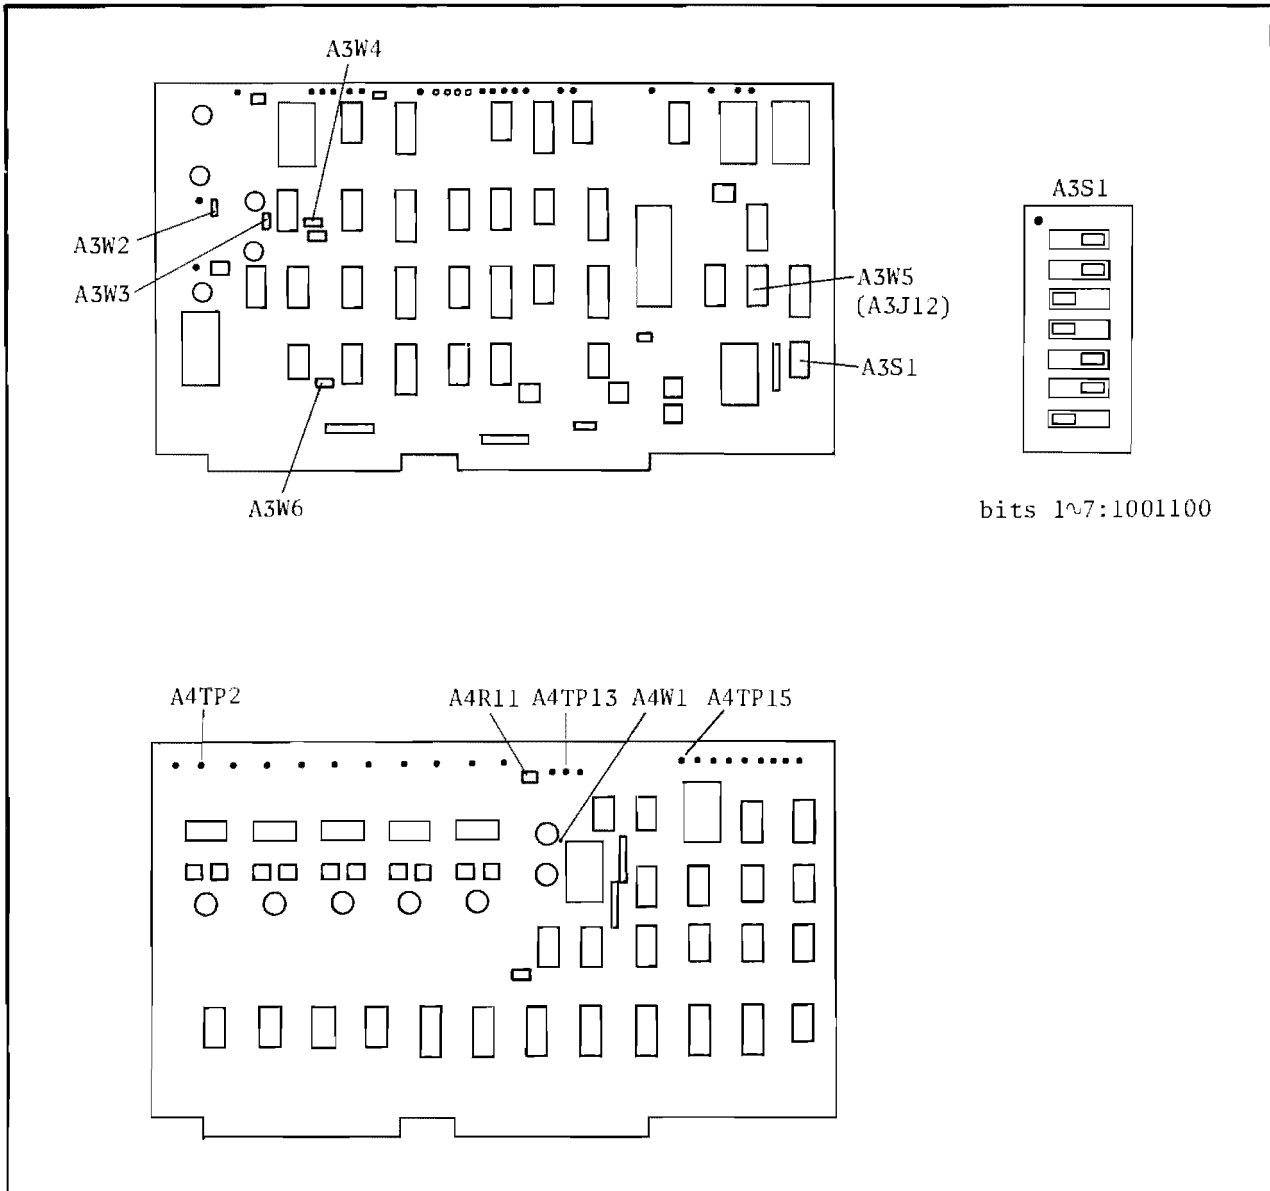

Figure 5-15. Check/Adjustment Point Locations.
1. Remove the A3 SMU Control and A-D Converter Board and A4 D-A Converter Board, and set A3S1 (SW1) to 1001100. See Figure 5-15 for the location of A3S1.
2. Verify that jumpers A3W2 through A3W6 and A4W1 (see Figure 5-15 for the locations) are set to N (Normal Mode).
4. Connect DVM HI input to A4TP2 (-10V), LOW input to A4TP13 (AGND : analog ground), and EXT TRIGGER input to A4TP15 (see Figure 5-15 for the locations).
7. Adjust A4R11 (see Figure 5-15 for location) until the reading on the DVM is $-10.000V \pm 0.5mV$. Use an insulated screwdriver. The voltage at A4TP2 is a staircase signal. Adjust A4R11 only at the $-10V$ step.